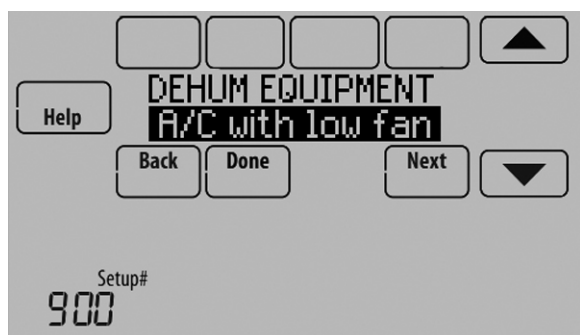

Fig. 210.
1. Select the Dehumidification Equipment in ISU 900. See Fig. 210.